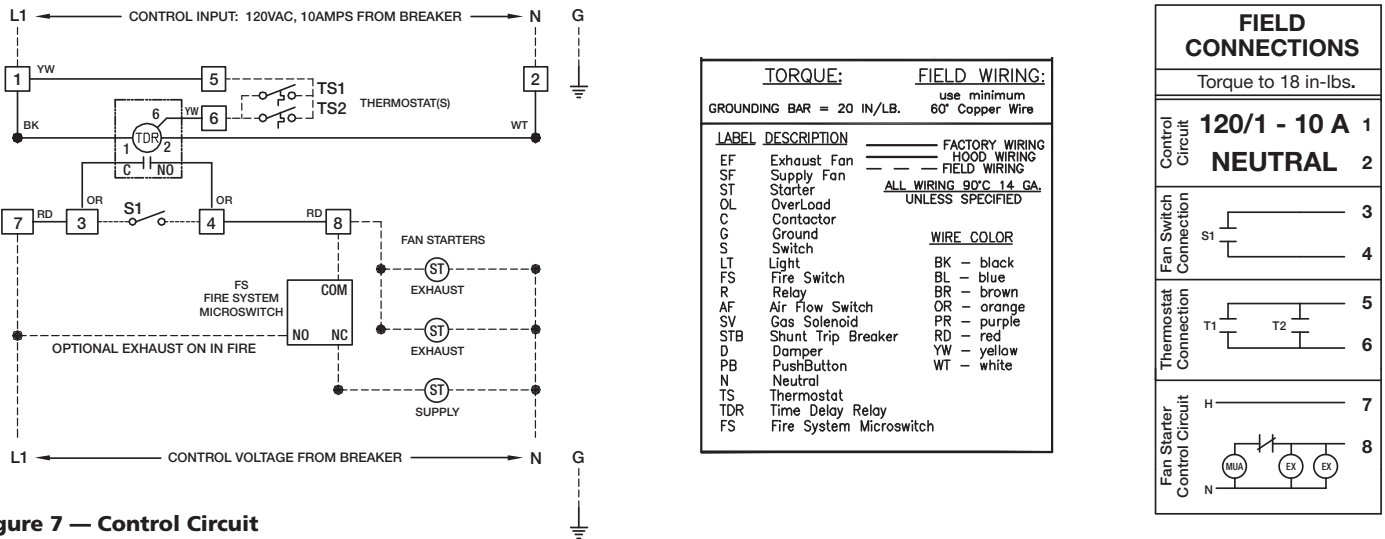

Figure 7 — Control Circuit
1. Run two 14 awg, 90°C minimum conductors, black, in conduit from each thermostat to the appropriate electrical circuit connections. (See Step 3 and Figure 7 for connection options.)
3. Choose the final connection based on terminals 5 and 6 in control box on top of hood/utility cabinet. See Figure 7.
BREAKER PANEL TO CONTROL BOX (SEE FIGURE 7)
- c. 120V, 24V or other control circuit (see Figure 7 on page 3)